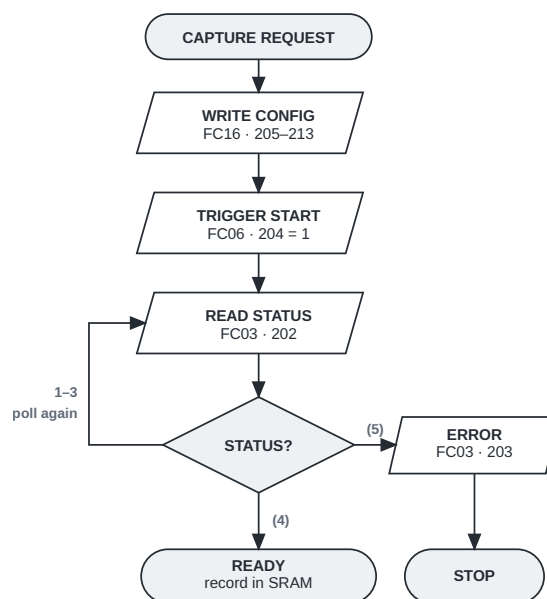

Figure 6: Modbus capture transaction sequence.
To acquire a time waveform, the Modbus RTU client writes the complete sensor configuration described in Section 1.6 to the device, writes START (1) to the CONTROL register (204), and polls the CAPTURE\_STATUS register (202) until it reports READY or ERROR (see flowchart Figure 6). Table 2 summarizes the configuration, status, and page-download registers used by this workflow.